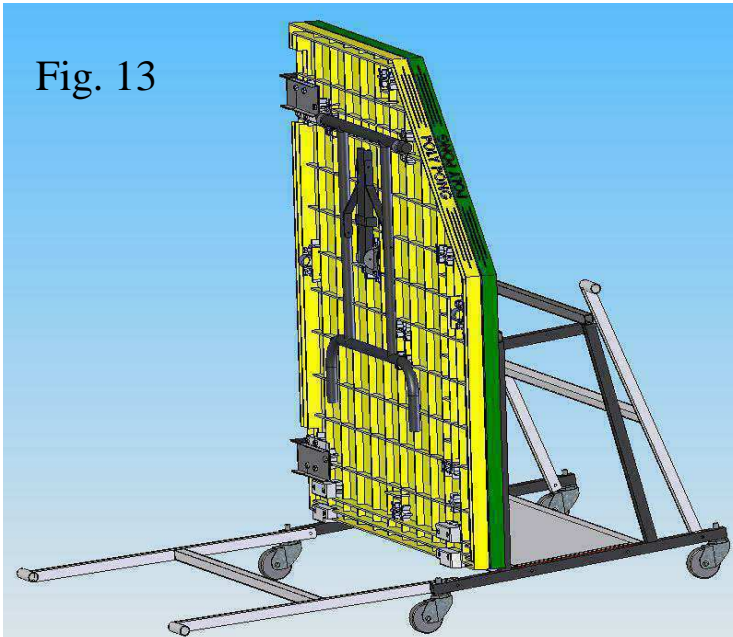

Fig. 13
14. Lower one table support arm and using two people, carefully lift the YELLOW-GREEN table top assembly onto the dolly. FIG 13. Now lift the table support arm and while two people 1. are lifting the table tops, a third person should carefully loosen the U-clamps